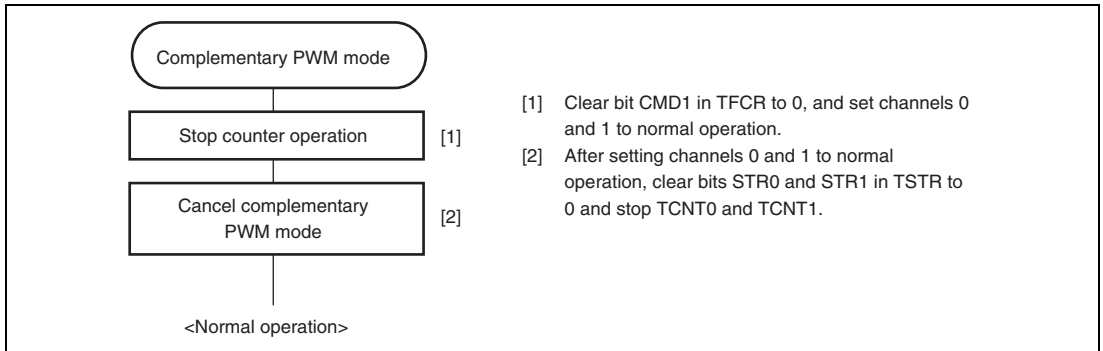

Figure 14.30 Canceling Procedure of Complementary PWM Mode
1. Canceling Procedure of Complementary PWM Mode: Figure 14.30 shows the complementary PWM mode canceling procedure.